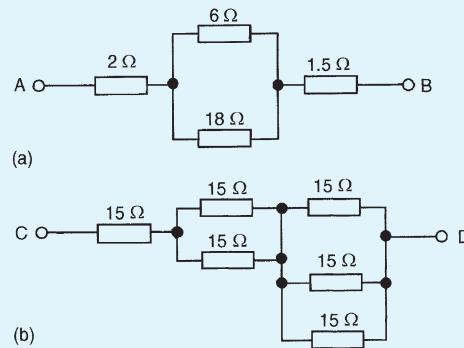

Figure 5.30
- Find the total resistance between terminals A and B of the circuit shown in Fig. 5.30(a).
- Find the equivalent resistance between terminals C and D of the circuit shown in Fig. 5.30(b).